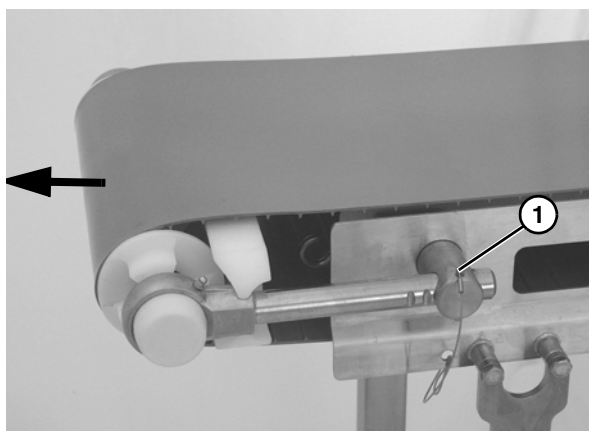

Figure 12
- Place the idler tail in the down position, and extend the tension end to remove excess slack in the belt (**Figure 12**).
- Insert the pull pins (**Figure 12, item 1**) on the tension end of the conveyor.